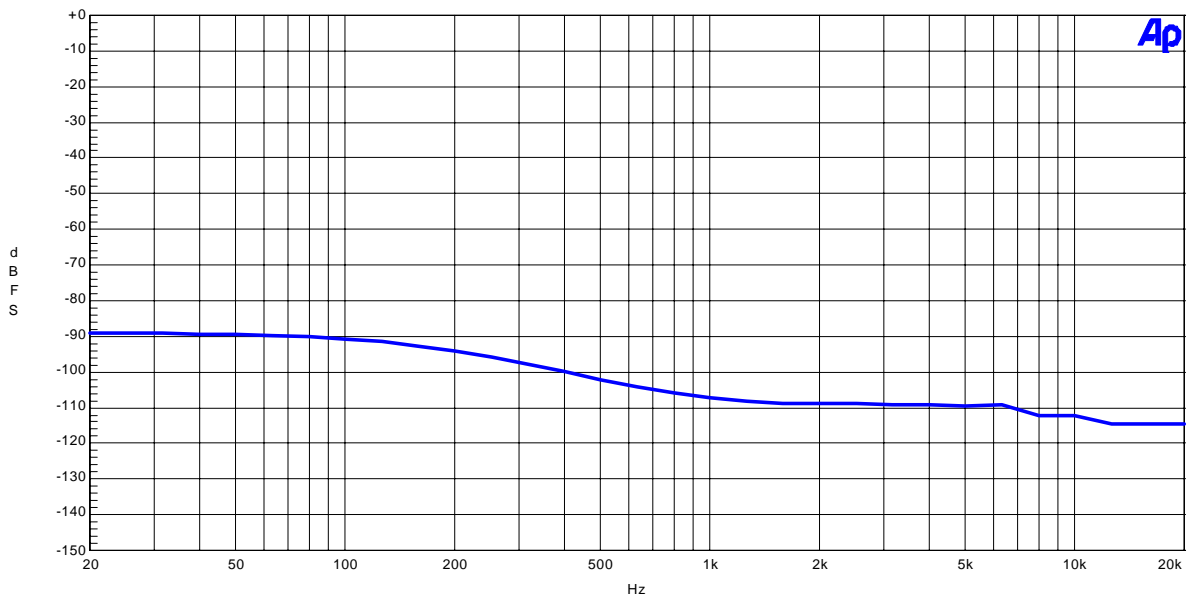

Figure 1-1-4. THD+N vs Input Frequency (-1dB input)
- Figure 1-1-4. THD+N vs Input Frequency (-1dB input)